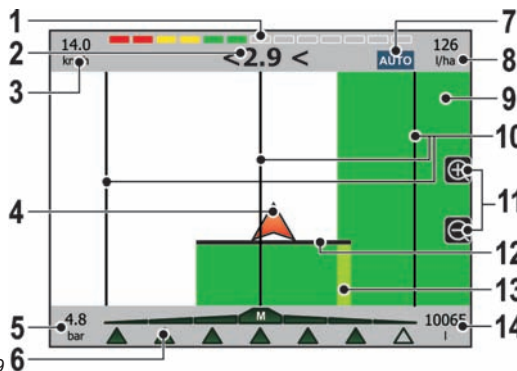

Fig. 199
- F 3 Open/closes nozzle A when manual control is active (ref. 7 in Fig. 199).
- F 4 Open/closes nozzle B when manual control is active (ref. 7 in Fig. 199).